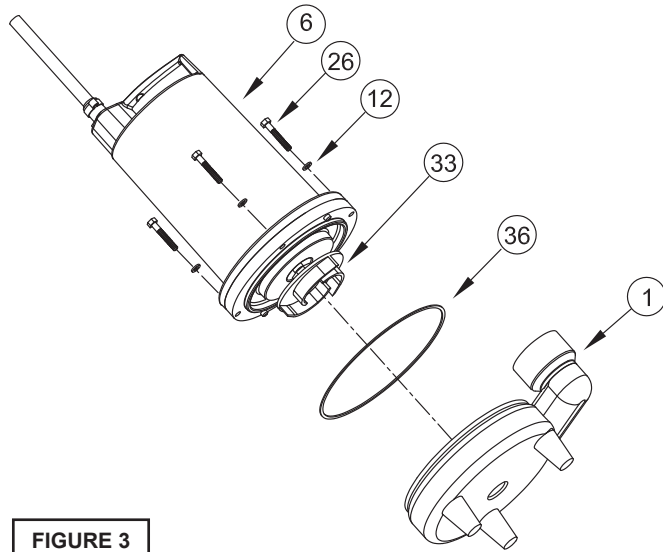

FIGURE 3
To clean out volute (1) or replace impeller (33), disconnect power, remove hex bolts (26), and lockwasher (12), vertically lift motor and seal plate assembly from volute (1), see Figure 3. Clean out body if necessary. Clean and examine impeller (33), for pitting, wear, cracks or breakage and replace if required, inspect square ring (36) and replace if cut or damaged. If the impeller (33) needs replacing, place a flat screwdriver in the slot of the end of the shaft to hold the shaft stationary while unscrewing the jam nut (66) and impeller (33).